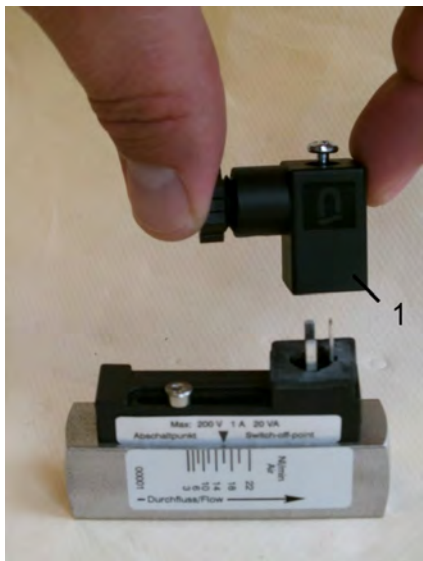

Fig. 50: Remove female socket
2. ➔ Remove the female socket and gasket (Fig. 50/1) by pulling upwards